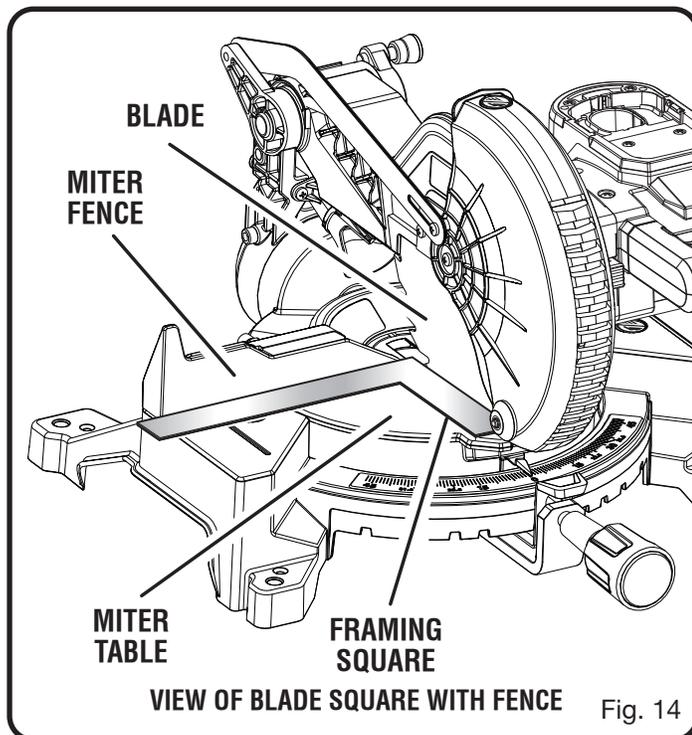

Fig. 14
See Figures 14 - 19.
- The edge of the square and the saw blade should be parallel as shown in figure 14.